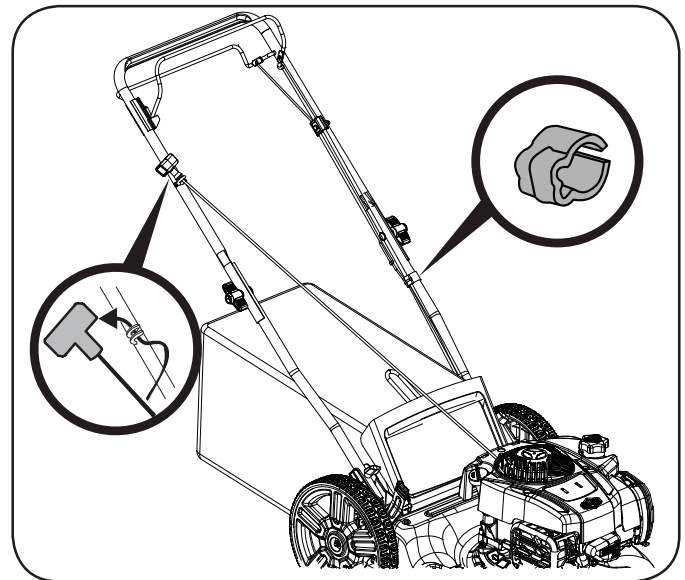

Figure 6
2. Slowly pull starter rope handle from engine and slip starter rope into the rope guide (Figure 6).
3. Use the cable clamp to secure the control cable to the handle (Figure 6).